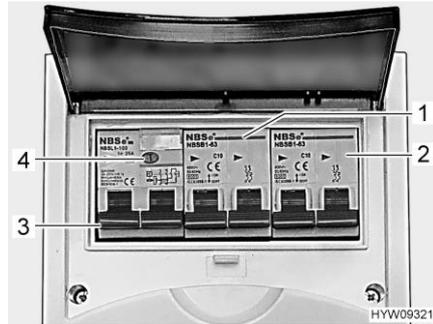

Fig. 156 Safety cutout and FI-switch
A fault current protection switch (FI-switch) (Fig. 156,3) in the fuse box protects the complete vehicle from fault current (30 mA).
The downstream safety cut-out (10 A) (Fig. 156,1) secures the 230 V sockets, the transformer/rectifier, the auxiliary charging unit and the refrigerator.
For vehicles with special equipment, e.g. roof air conditioning unit, the device is protected by an additional safety cut-out (16 A) (Fig. 156,2).
- When the vehicle is connected to the 230 V power supply, press the test button (Fig. 156,4). The fault current protection switch (FI-switch) must be activated.